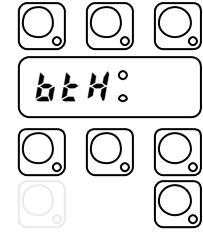
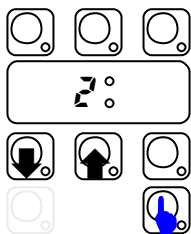

Fig. 5.4
Fig. 5.5
- Press CYCLE INFITE key to confirm. The display shows the next parameter (Fig.5.4) and the corresponding value (Fig.5.5);